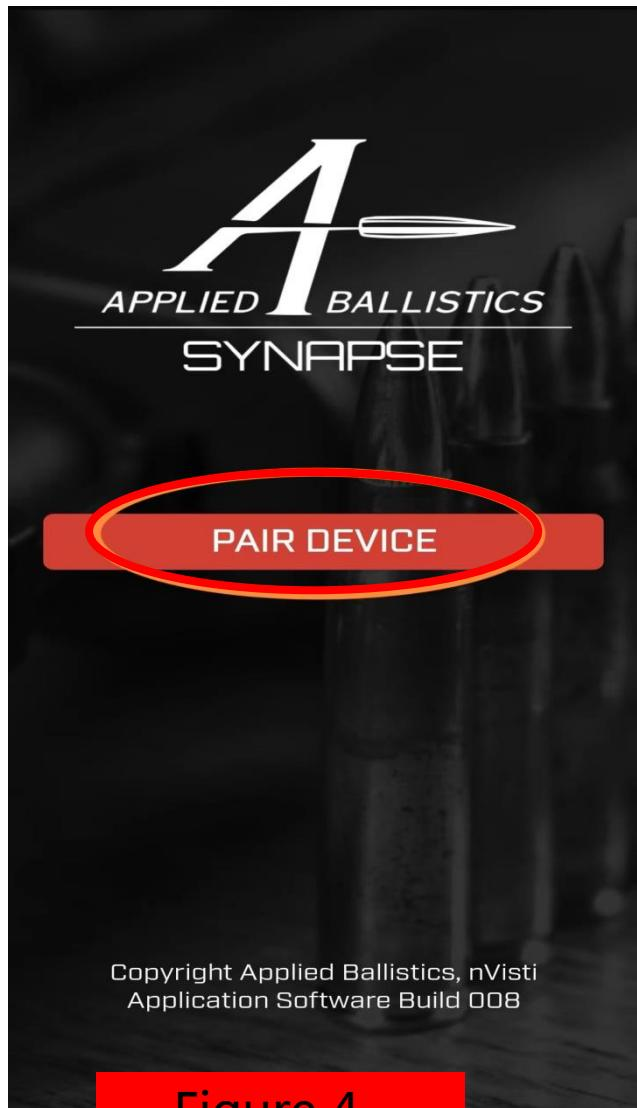

Figure 4
- 3) Access the location information and select "Allow" to enter the interface as shown in Figure 4